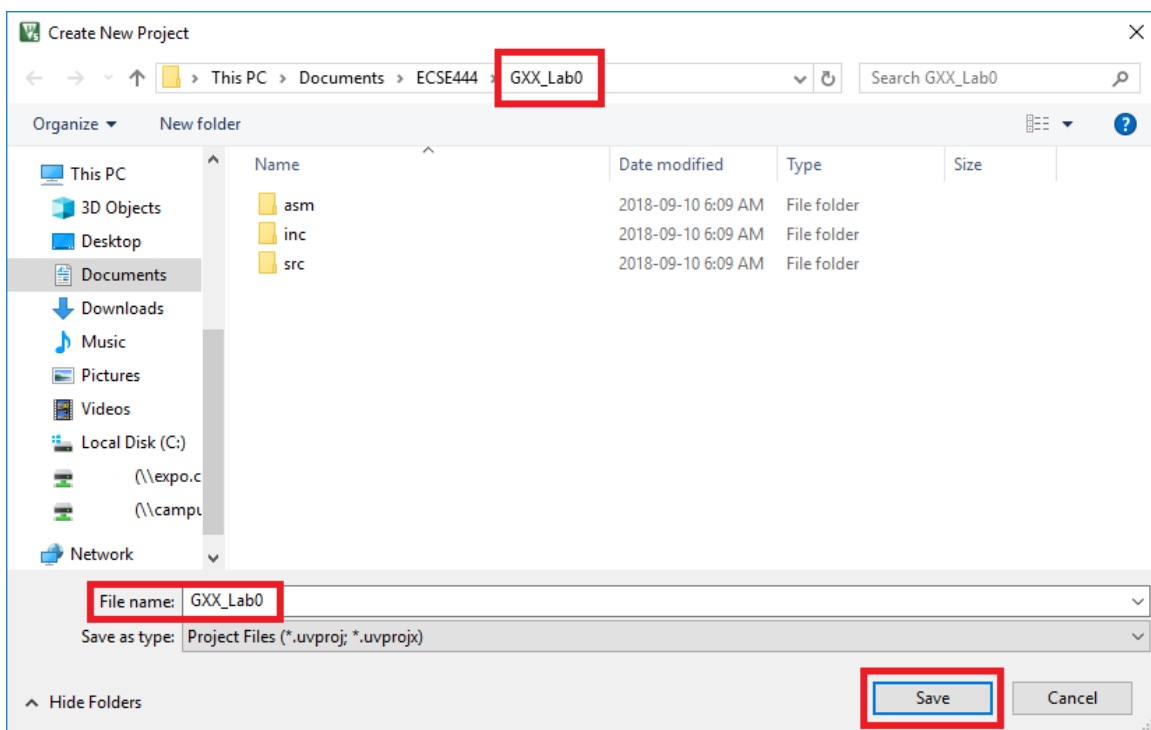

Figure 3: Name the project and save it in the *GXX\_Lab0* folder.
3. In the dialogue box that pops up, navigate to the *GXX\_Lab0* folder and name the project **GXX\_Lab0** as shown in Figure 3.